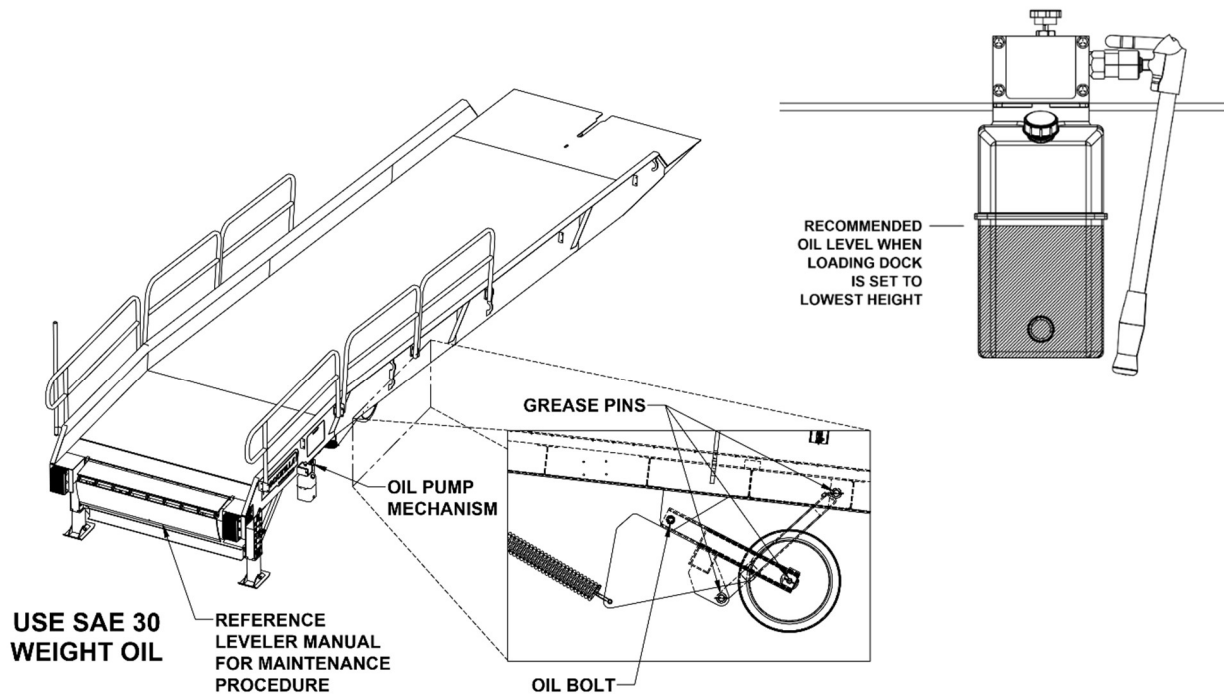

Figure 11. Maintenance Procedures
1. Check hydraulic fluid level. See Figure 11. Use JAX Enviro-Guard ISO 15 hydraulic fluid.